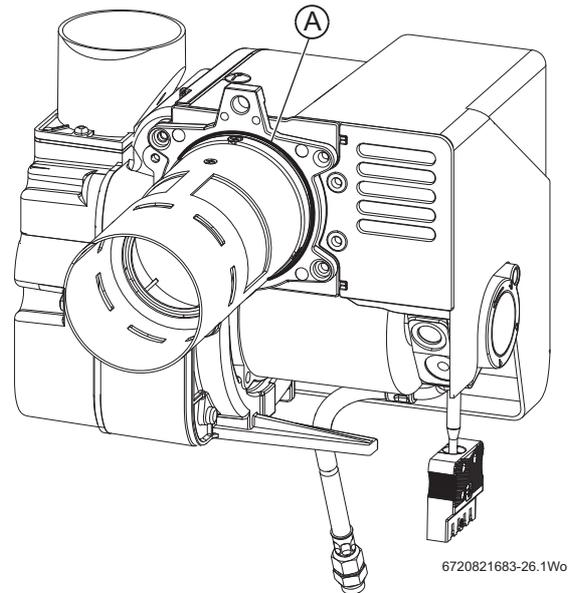

Fig. 47 12/18 Burner O-ring seal shown
- ▶ Always check that the O-ring seal (Fig 47 item A) is in good condition before fitting the burner. Replace the O-ring seal if defective.